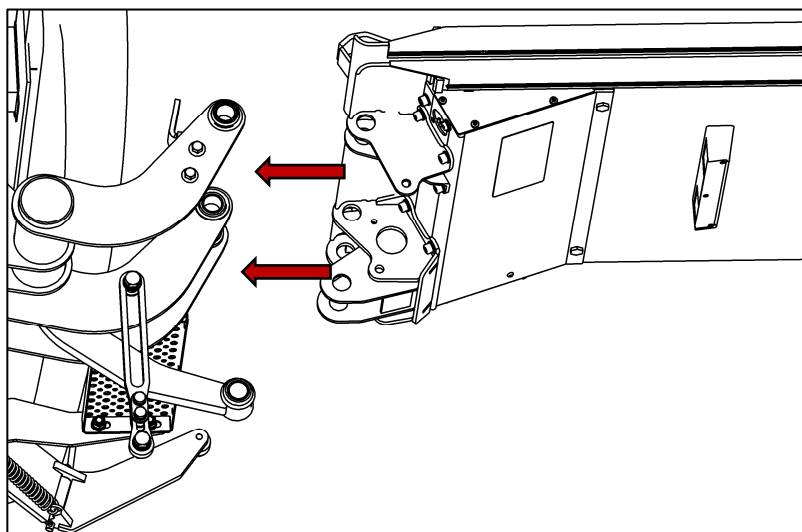

Fig. 52
- Align the top bearing points of the platform (platform attachment points) with the swing-arm bearing points (top attachment points of the lifting gear) (see Fig. 52).